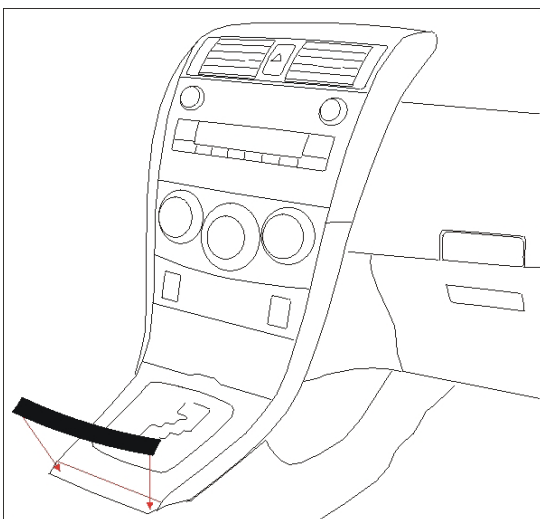

Fig. 8-1
- (b) Align part uniformly to the bottom edge of the shift plate and edges of the factory shift console. (Fig. 8-1)